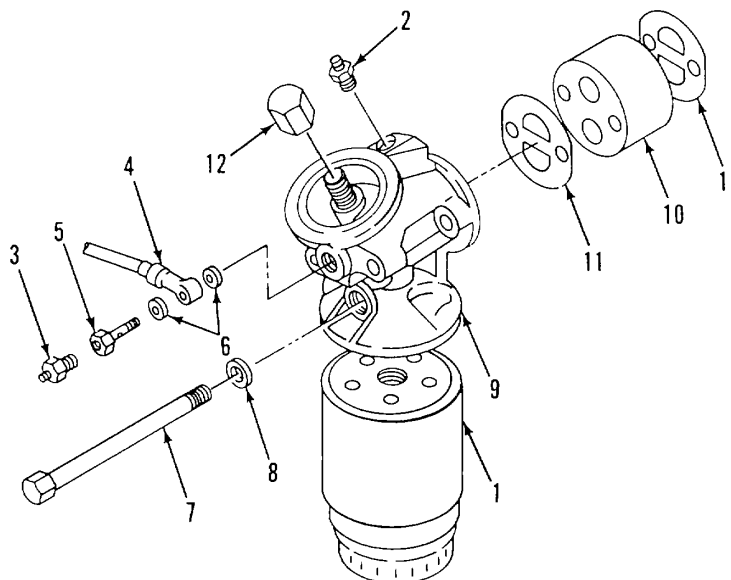

Figure 2-33. Lube Oil Filter Assembly
a. **REMOVE.** (Figure 2-33)
- (1) Unscrew filter element (1).
- (2) Disconnect and remove oil temperature sensor (2) and oil pressure switches (3) (para. 2-37).
- (3) Disconnect oil line by removing banjo bolts (5) and seals (6).
- (4) Remove two mounting bolts (7) and flat washers (8) and base assembly (9).
- (5) Remove spacer (10) and two gaskets (11).